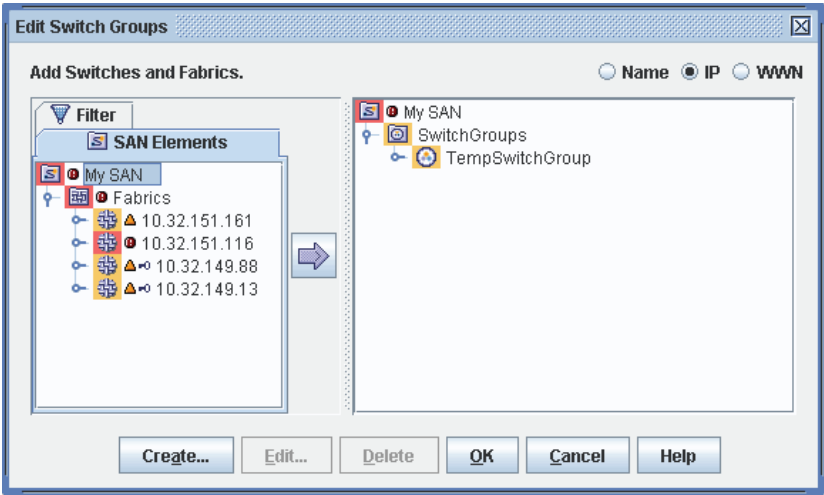

Figure 4-12 Edit Switch Groups Window
- The Edit Switch Groups window appears, as shown in Figure 4-12.
- The group that you create will be nested within the item that you click in this step. If you click an existing group instead of the SwitchGroups icon, your new group appears as a subgroup of that group. Using Figure 4-12 as an example, select **BldgA** to create a new subgroup within that group; select **SwitchGroups** to create a new group at the same level in the hierarchy as BldgA and BldgB.
The Edit Switch Groups window appears, as shown in Figure 4-12.